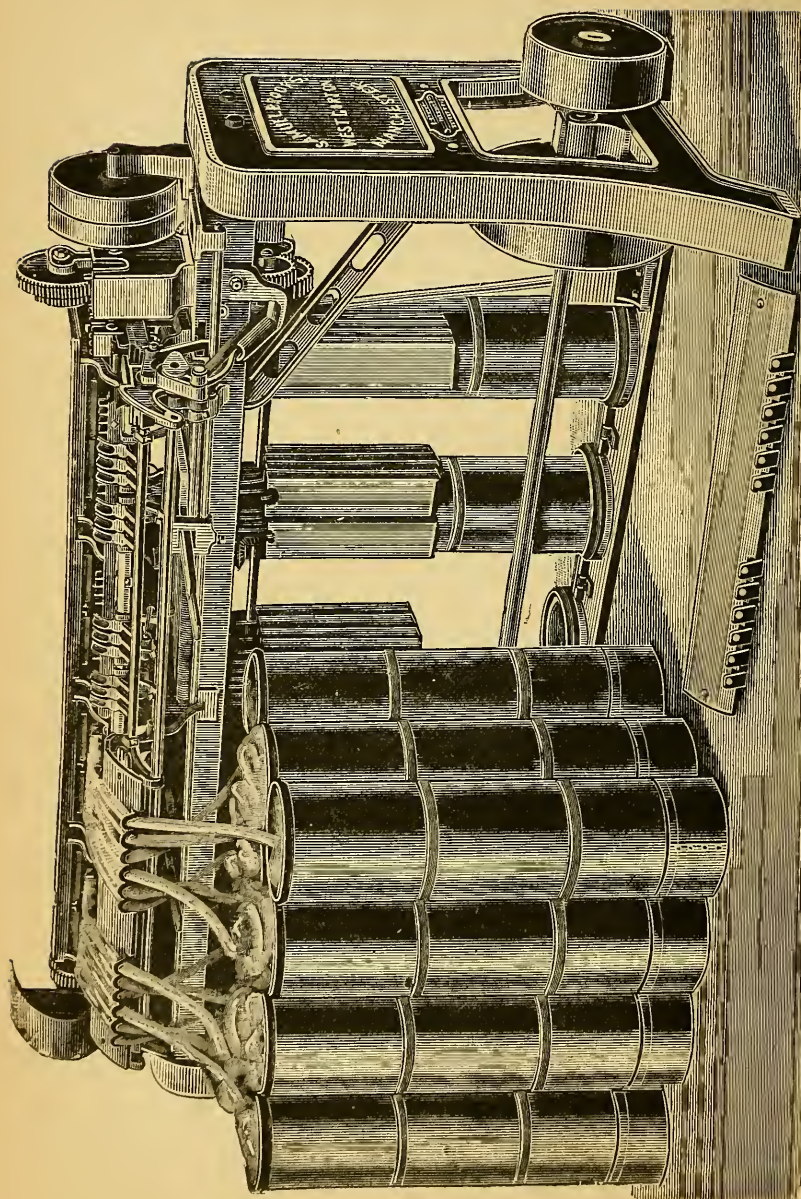

Fig 13.—Drawing Frame.
**Object in Drawing.**—The object to be obtained in drawing the slivers is to reduce their thickness after they have been doubled. The more a sliver is doubled and elongated, the more perfect should be the yarn spun from it. If a drawing frame of three heads and four deliveries each draws eight slivers, combined into the first head, and again drawn into the second, and redrawn from the second at the third head, the sliver will have passed through  $8 \times 8 \times 8 = 512$  doublings and drawings ; but this process may be carried too far, as excessive drawing, as well as excessive clearing and carding, tends to weaken the fibres—they separate, will not interlock, they all fall away from each other, and become brittle and useless. The sliver from the last drawing head should be of a silky lustre, and its component fibres perfectly parallel with the sliver and each other. Very little waste occurs in this operation, and that only through inadvertence or negligence. The leather upon the rollers is liable to be affected by damp, therefore it is necessary to have a dry atmosphere in the rooms, as the adhesiveness caused by dampness laps the cotton round the rollers, creating a great deal of trouble and causing loss of time. Drawing frames are of various makes and sizes, but the principle is the same throughout. An approved example is shown in Fig. 13.